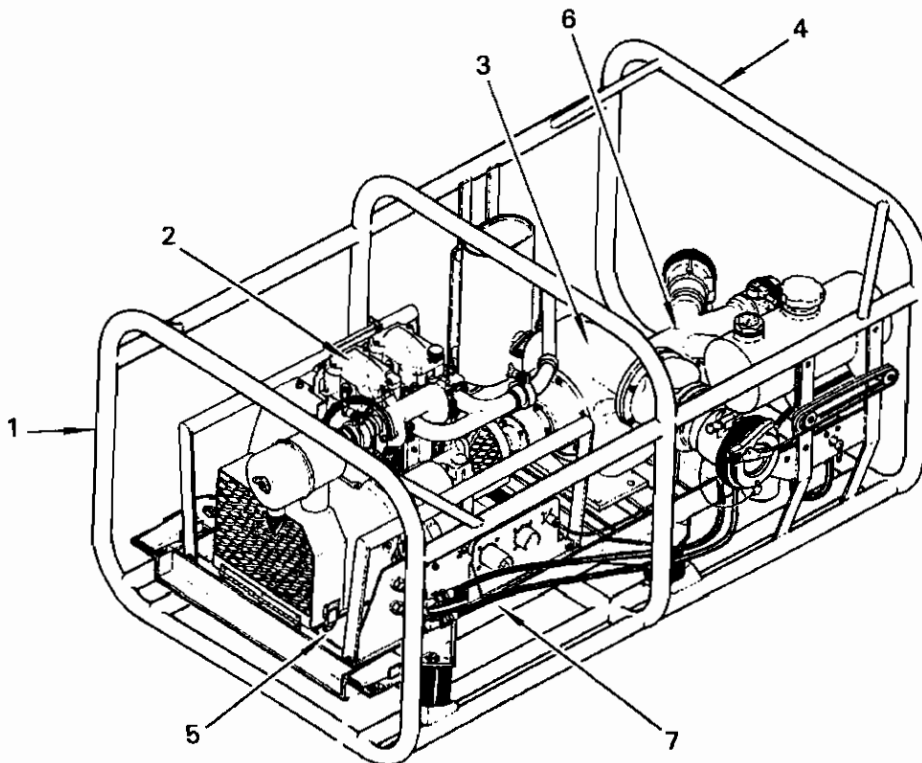

Figure 1-3. Pump-Engine Module
The Pump-Engine module (1), figure 1-3, consists of a 19 HP diesel engine (2), fuel transfer pump (3) and associated components mounted in the main module frame (4). The engine module (5), fuel transfer pump (3) and inlet manifold (6) are mounted on a separate, shock mounted subframe (7) in the main module frame (4). The pump module (3) and engine module (5) are each designed for four soldier carry. The engine module (5) must be removed for separate carry.